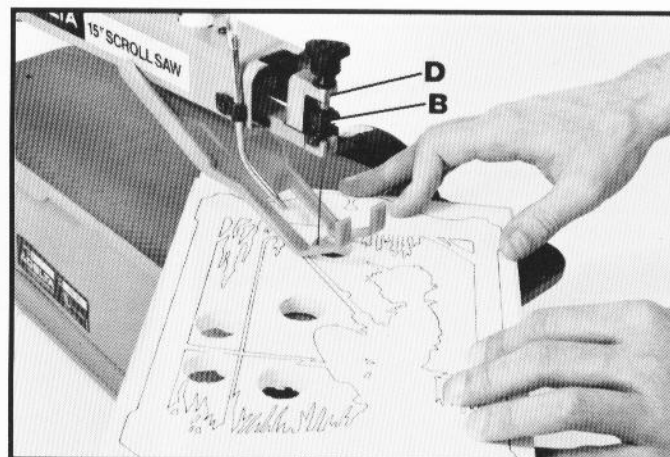

Fig. 34
6. Assemble the upper blade holder (B) Fig. 34 into the upper rocker arm (D). Adjust blade tension and proceed to cut out the waste piece, as shown in Fig. 34.